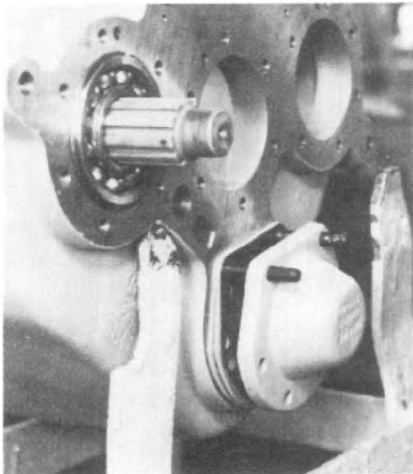

Fig. 17
6. Installation of gaskets, bearing carriers, seal carriers and caps will be simplified if two guide studs are utilized (See Fig. 17). Guide studs may be made by cutting the head off a $\frac{7}{16}$ -14 bolt of about 3 inches in length. Point the non-threaded end and also slot the end to allow a screwdriver to be used, if necessary, for guide removal.
11. Temporarily install the rear output shaft front cover (See Fig. 17). Do not install shims. Tighten the mounting bolts to approximately 25 lb. ft. torque. Measure the gap between the rear output shaft front cover and the case housing with feeler gauges. Add .010 to this figure and then select a shim pack that is equal to this calculated figure or up to .005 larger. Install shim pack, Permatex threads of retaining bolts and tighten to the specified torque.